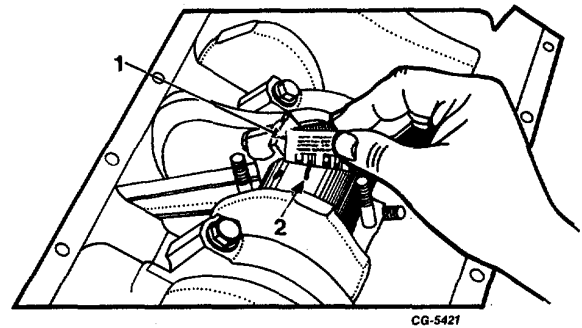

Fig. 128. Checking Connecting Rod Bearing Clearance
4. Remove bearing cap and use Plastigage scale to measure widest point of Plastigage, Figure 128. This reading indicates the bearing clearance in thousandths of an inch.